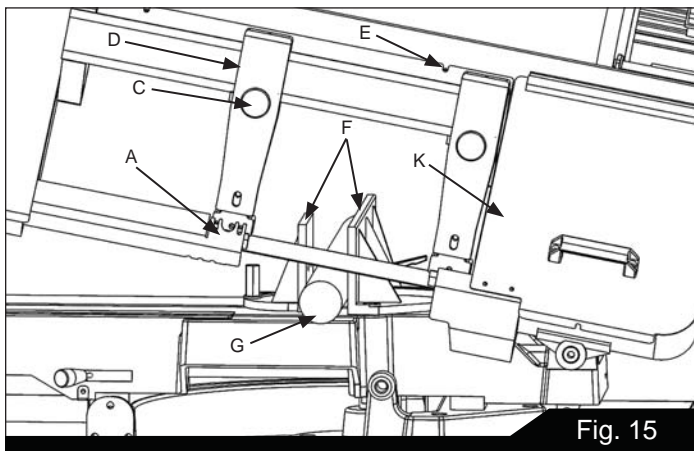

Fig. 15
15. Close the *wheel covers* (K, Fig. 15).
Referring to Figure 15: